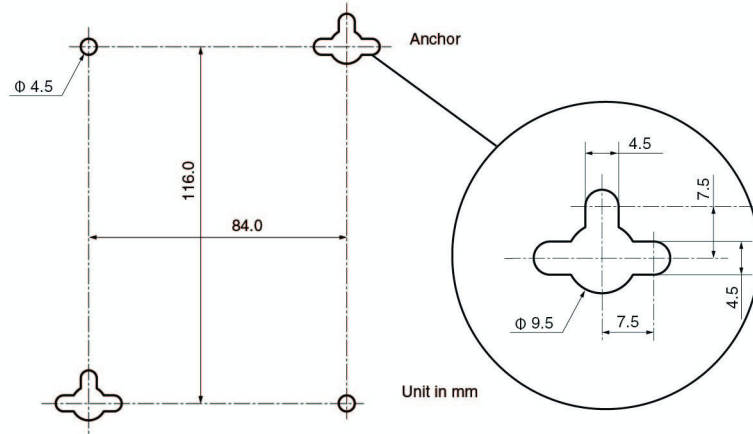

Figure 5. Base Plate Hole Dimensions
1. Using the base plate as a template, mark the four holes for mounting the base plate to the wall or ceiling. See Figure 5 for hole dimensions.